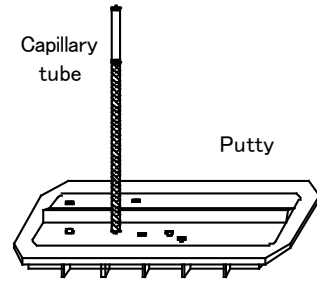

Fig. 2-3
4. Seal one end of the capillary tube with putty when half or more of the capillary tube has been filled with blood. (Fig. 2-3)